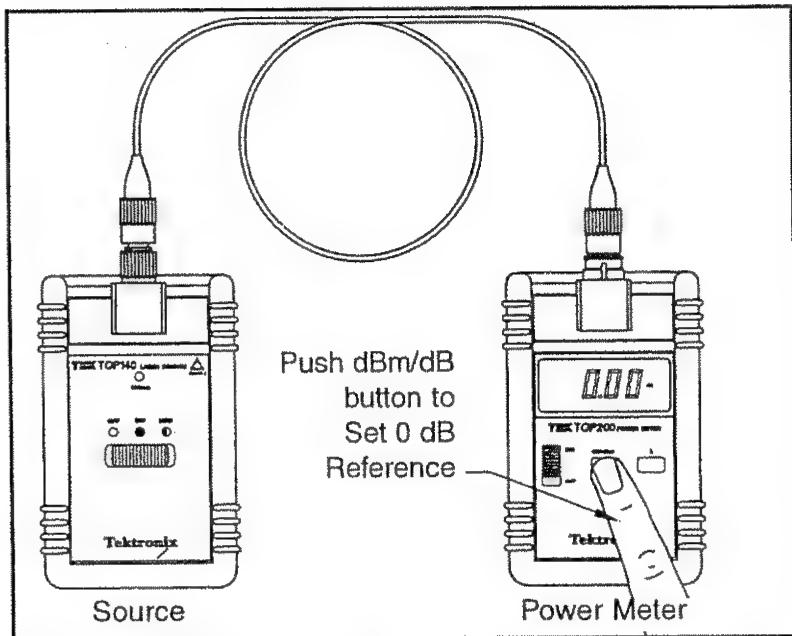

Fig 4.2 Establishing a Reference Measurement
- B) Switch the source to continuous (CW) light output and the power meter to the appropriate wavelength (using button) and dBm units. Note the dBm output of the reference cable should be within acceptable limits.
C) To store this reference level, press the [dBm/dB] button (for about 2-3 seconds until the little "r" annunciator appears on the LCD display) and the display reads 0.00dB. See Figure 4.2.